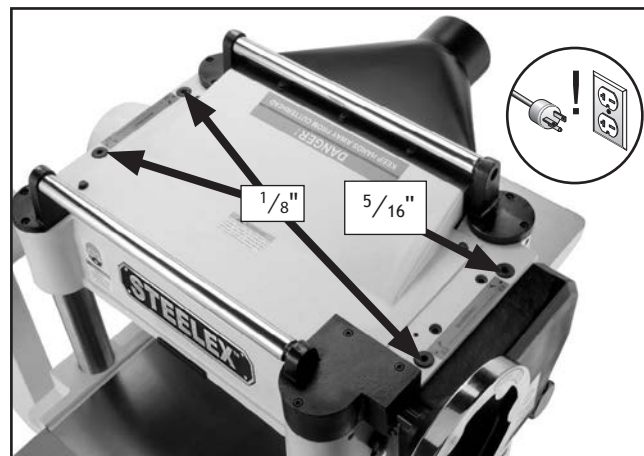

Figure 63. Roller spring tension adjustment screws.
2. Rotate tension screws clockwise to increase tension, and counterclockwise to decrease tension until they protrude to the values shown in **Figure 63**.
Note: The rear-right spring typically requires less tension because of forces applied from the feed drive system. The values shown in **Figure 63** are a starting point for further adjustment using trial and error.